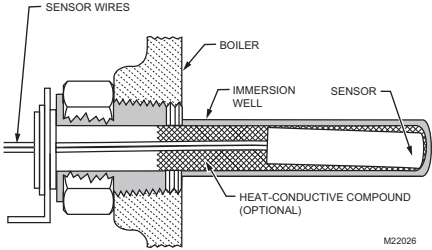

Fig. 4. Replacement sensor installation.
- 4. Make sure sensor is fully seated to bottom of well (See Fig. 4). Use a small pencil to measure depth of sensor in well, if necessary.